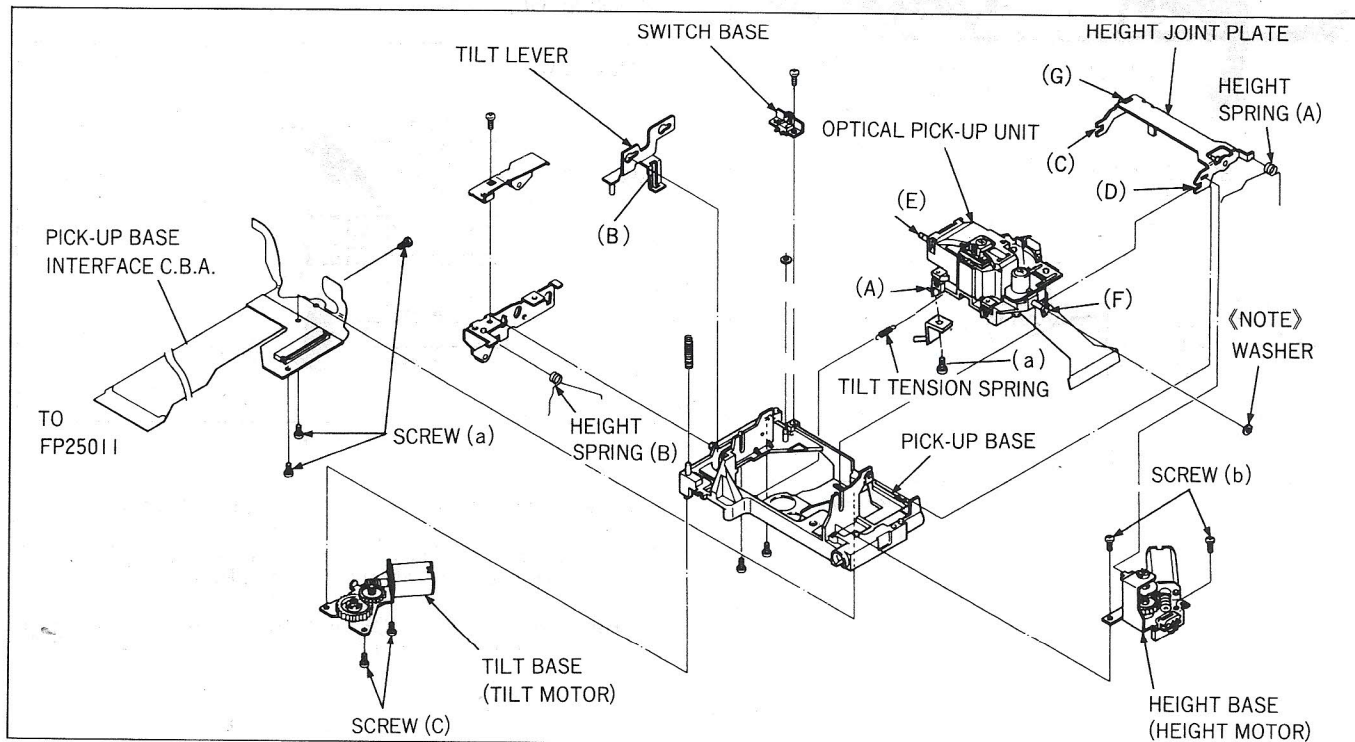

Fig. 8-3
1. To replace the Tilt Motor, perform item 1 and 2 of "Replacement of the Optical Pick-up."
2. Remove 2 screws (C) and then take out the Tilt Motor as shown in Fig. 8-3.